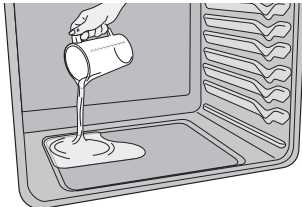

Figure 22: Add 1 cup of tap water
3. Pour 1 cup of tap water onto the oven bottom.(Figure 22) Close oven door.